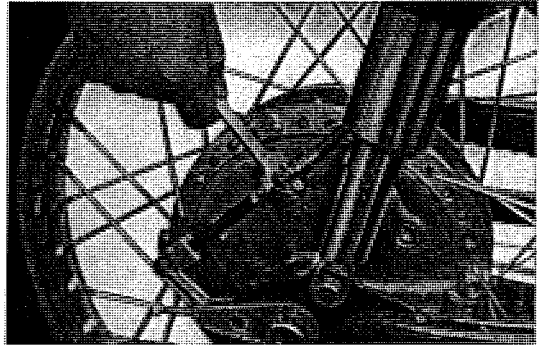

Fig. 6.37 Adjustment of play of rear brake pedal
- c. Adjust by loosening (a) and turn the adjuster (b). If the adjuster is turned to the right, the play will become greater. (Refer to Fig. 6.37)